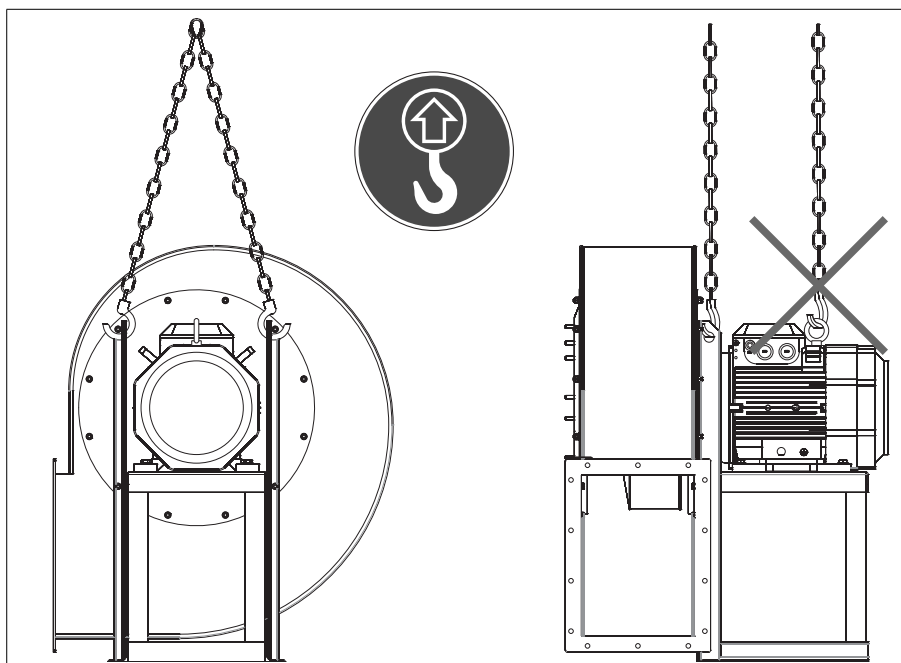

FIG. 11 (Anchoring points for lifting the fan)
IT IS COMPULSORY TO USE SUITABLE MEANS (ROPES, SLINGS, CHAINS, CRANES, FORK LIFT TRUCK, ETC.) IN COMPLIANCE WITH THE REGULATIONS IN FORCE ON SAFETY, USING THE ANCHORING POINTS IDENTIFIED BY THE SIGN SHOWN IN FIG. 11.
**4.2- How to lift the fan (FIG. 11)**
It is necessary to use the suitable holes created on the fan (usually on the stringers on the base **s. FIG. 11**) and highlighted by means of suitable signs. It is recommended to use a chain sling with 2 or more arms, which shall be selected by the operator entrusted with the handling after analyzing the size and mass of the fan to be lifted and finding the right symmetry degree for a suitable lifting - apply the 818-6:2000+A1:2008 standard. Make sure that the arms that are not used are folded and attached to reduce the risk that they may start swinging and get caught and, therefore, interfere during the lifting phase.
The tips of the hooks should always be facing outwards **FIG. 11**.